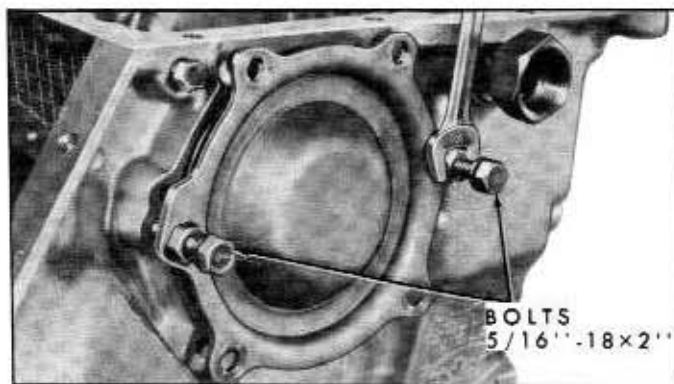

Fig. 7A-34—Removing Low Servo Cover—(60C-4434)
3. Alternately loosen the nuts on the long bolts one turn at a time until the spring tension is relieved. See figure 7A-34. Remove the long bolts, cover, and cover seal.